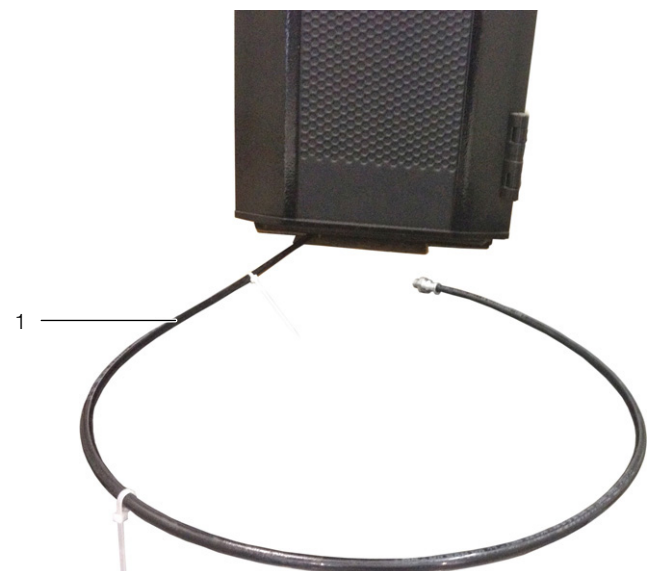

Fig. 21: Condensate discharge
Any condensate which may develop is collected in the condensate collecting tray (fig. 21, item 2) beneath the heat exchanger.
The LCP DX is additionally equipped with a condensate discharge (fig. 21) via which the condensate is pressurelessly routed out of the LCP DX.